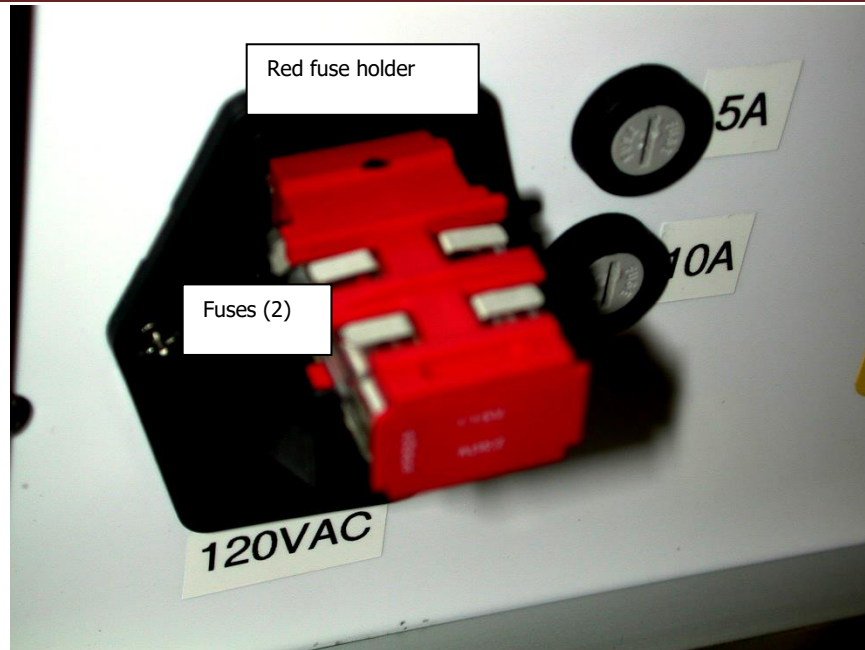

Figure 4. Power Entry Module Fuses
3. Remove the red fuse holder (see **Figure 4**).